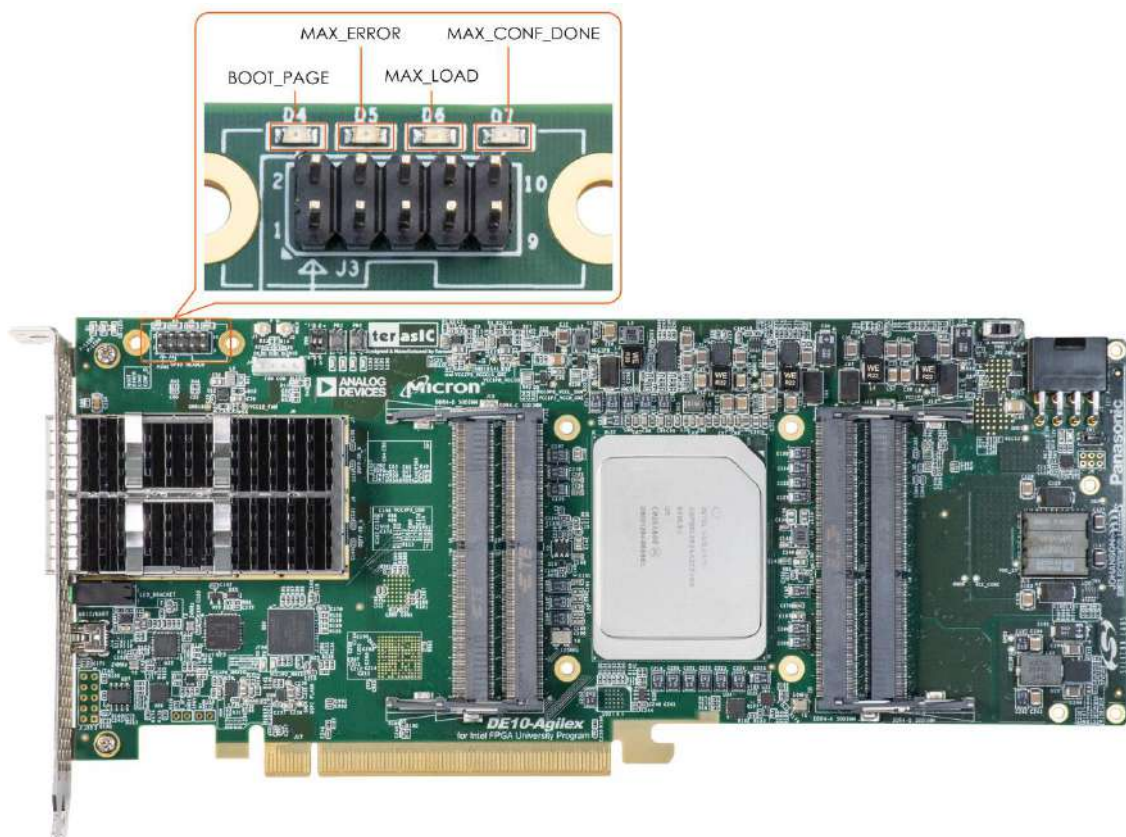

Figure 4-5 Position of the Configuration status LED
5. When the configuration is completed, the green Configure Done LED will light. If there is an error, the red Configure Error LED will light (See **Figure 4-5**).